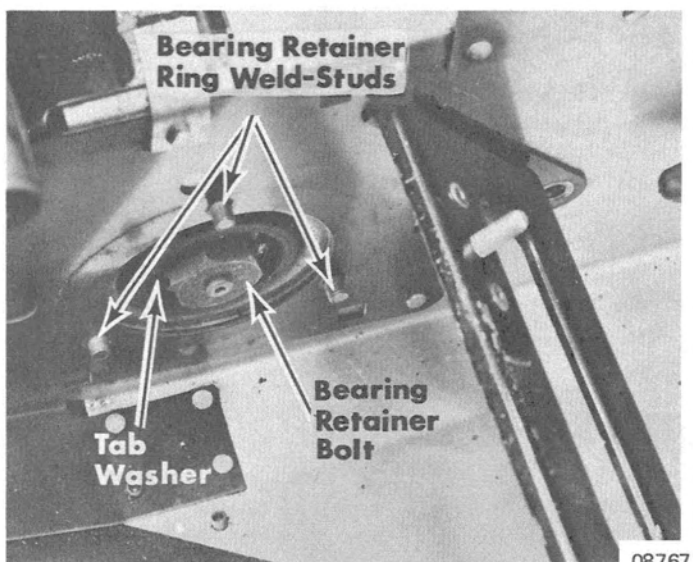

Figure 9. Front Axle Bearing Retainer Bolt
2. If front axle bearing will be removed from front axle, straighten locking tabs on tab washer, apply brake and remove bearing retainer bolt and tab washer from front axle. (Figure 9)
5. Install tab washer and bearing retainer bolt on front axle. (Figure 9) Apply brake and torque retainer bolt to specification in "Specifications" Section 8. Bend locking tabs on tab washer against bearing retainer bolt.
6. Position bearing retainer ring in place with 3 weld-studs installed thru holes in chassis. (Figure 9) Install bearing retainer cover on weld-studs of retainer ring. Secure bearing retainer assembly with 3 nuts torqued to specification in Section 8.